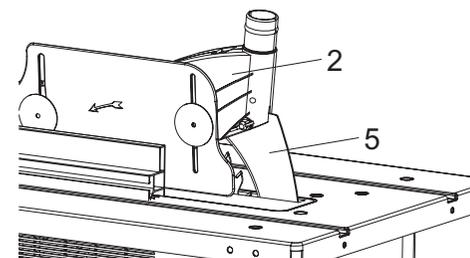

Fig. 9
2. Fitting the saw blade guard (Fig. 9)